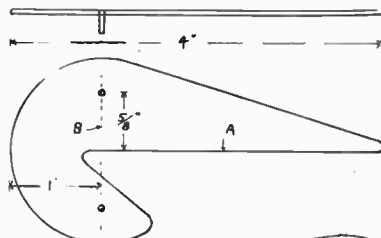

Fig. 1—A tool for finding the centre of circular articles
Care should be taken to set it out correctly, as even a fraction of an inch out will make the tool useless. For a medium size tool, take a piece of brass sheet 4ins. long and about 2ins. wide. Draw the line (A) (Fig. 1) along the centre, and, about 1in. from one end, draw another line (B) exactly at right angles to it.
With a metal fretsaw, cut round the edge of the tool as shown in Fig. 1, making the cut slightly outside the marks. Finish off with a file, and be very careful to get the straight edge (A) cut exactly on the line.